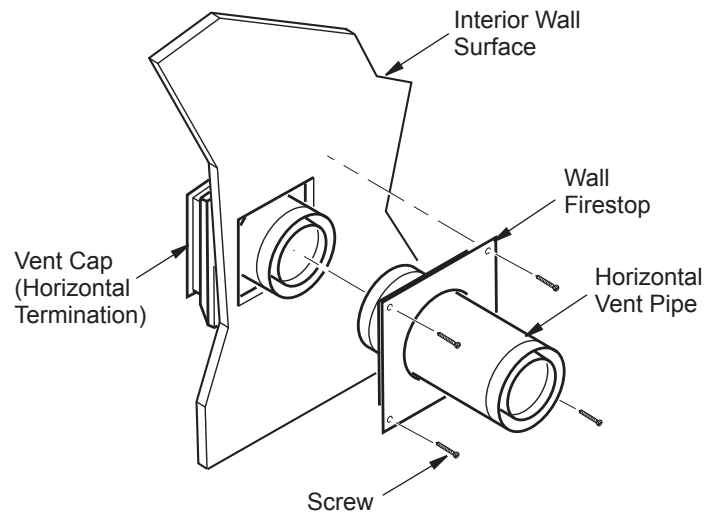
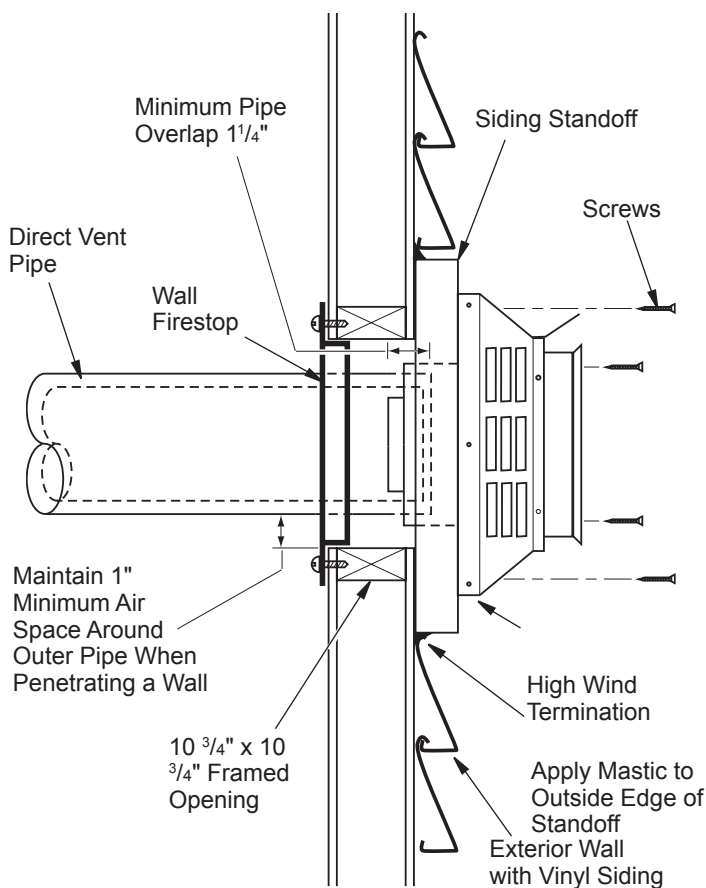

Figure 12 - Connecting Vent Cap with Horizontal Vent Pipe
Figure 13 - Typical Horizontal Termination Cap Mounting with Additional Siding Standoff Installed
7. **Combustible Exterior Wall Only:** Slide the wall firestop over the vent pipe before connecting horizontal run to vent cap (see Figure 12).
8. Carefully move fireplace, with vent assembly attached, toward wall and insert vent pipe into horizontal termination. The pipe overlap should be a minimum of 1 1/4" (see Figure 13, page 10).
9. **Combustible Exterior Wall Only:** Slide wall firestop against interior wall surface and attach with screws provided (see Figure 12). See Figure 13, page 10 for horizontal termination details.